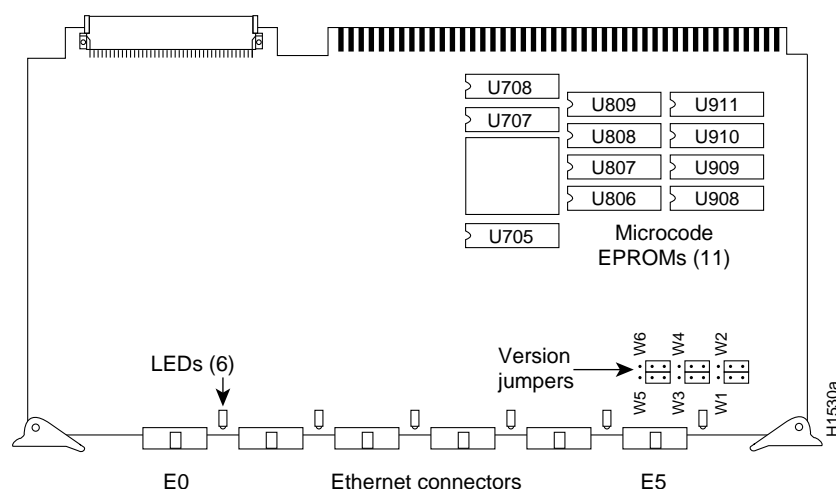

Figure 1 CSC-MEC Card Type 5.1—Component-Side View
- Step 6** Refer to Figure 1 for the socket locations of the 11 microcode components to be replaced. Refer to the following for component part numbers:
- Step 8** Insert the new components into the appropriate sockets, as shown in Figure 1 and listed in the following tables. Align the notch on the component with the notch on its socket, as shown.
- If a ciscoBus controller LED still fails to go on for an MEC card you just reinstalled, remove the card and check the microcode components for bent pins and misaligned notches. Ensure that the components are installed with the notch at the correct end of socket. (See Figure 1.) If power was turned on with a component installed backwards, the component must be replaced. Contact a service representative for a replacement.